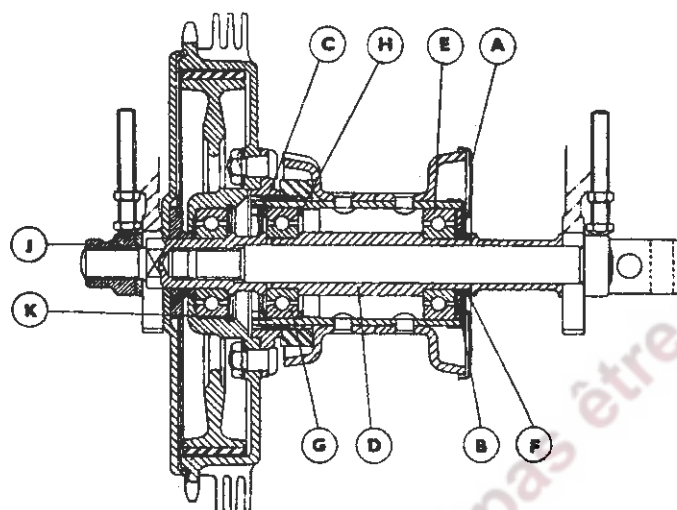

FIG. F.18. Section through rear hub.
The brake drum is retained in the fork end by the nut (J) Fig. F.18, and the nut securing the brake anchor strap to the lower chainguard bolt. This latter nut is secured by a split-pin.
To remove the drum, disconnect the rear chain and the brake rod, remove the nut (J) Fig. F.18 and the split-pin and nut at the rear of the lower chainguard bolt. The complete